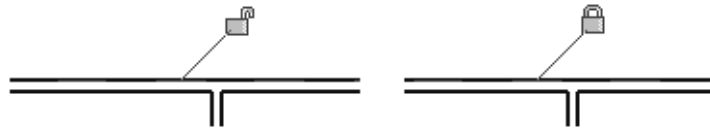

Figure 2–59
- You can lock alignments so that the elements move together if either one is moved. Once you have created the alignment, a padlock is displayed. Click on the padlock to lock it, as shown in Figure 2–59.